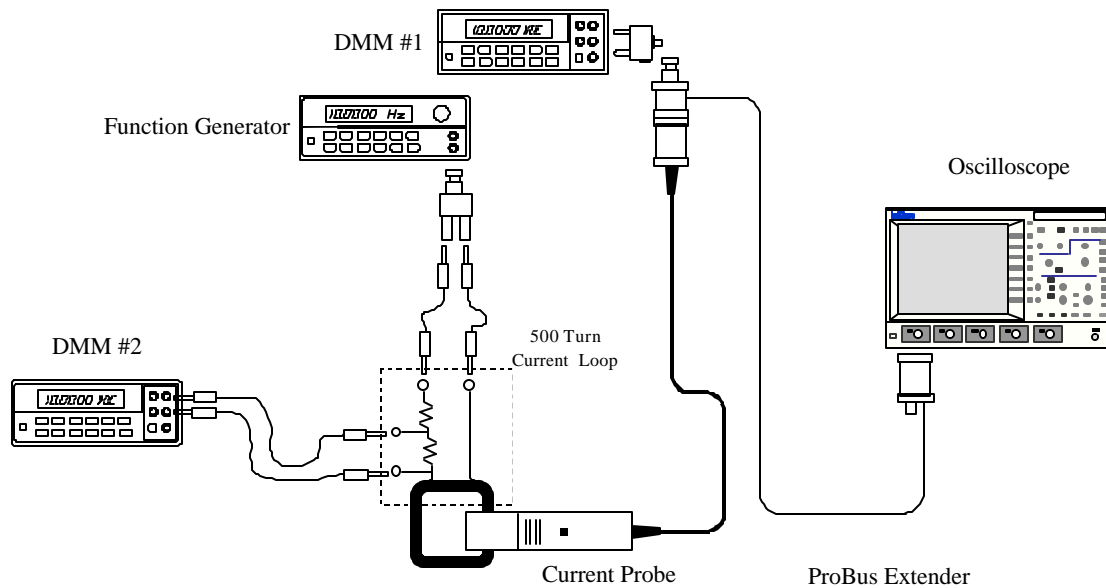

Figure 5-1. DC Accuracy Test Set Up
2. Remove the CP500 from the oscilloscope and reconnect using the ProBus extension cable. Connect the BNC male connector of the ProBus extension to DMM #1 using a BNC Female to Dual Banana adapter. Refer to figure 5-1.